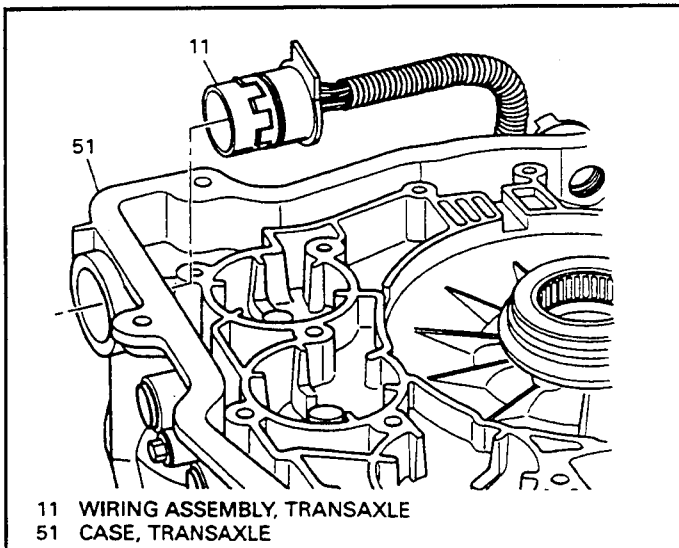

Figure 163
5. Install the case connector and wiring harness assembly into the transaxle case bore from the inside of transaxle case (See Figure 163).